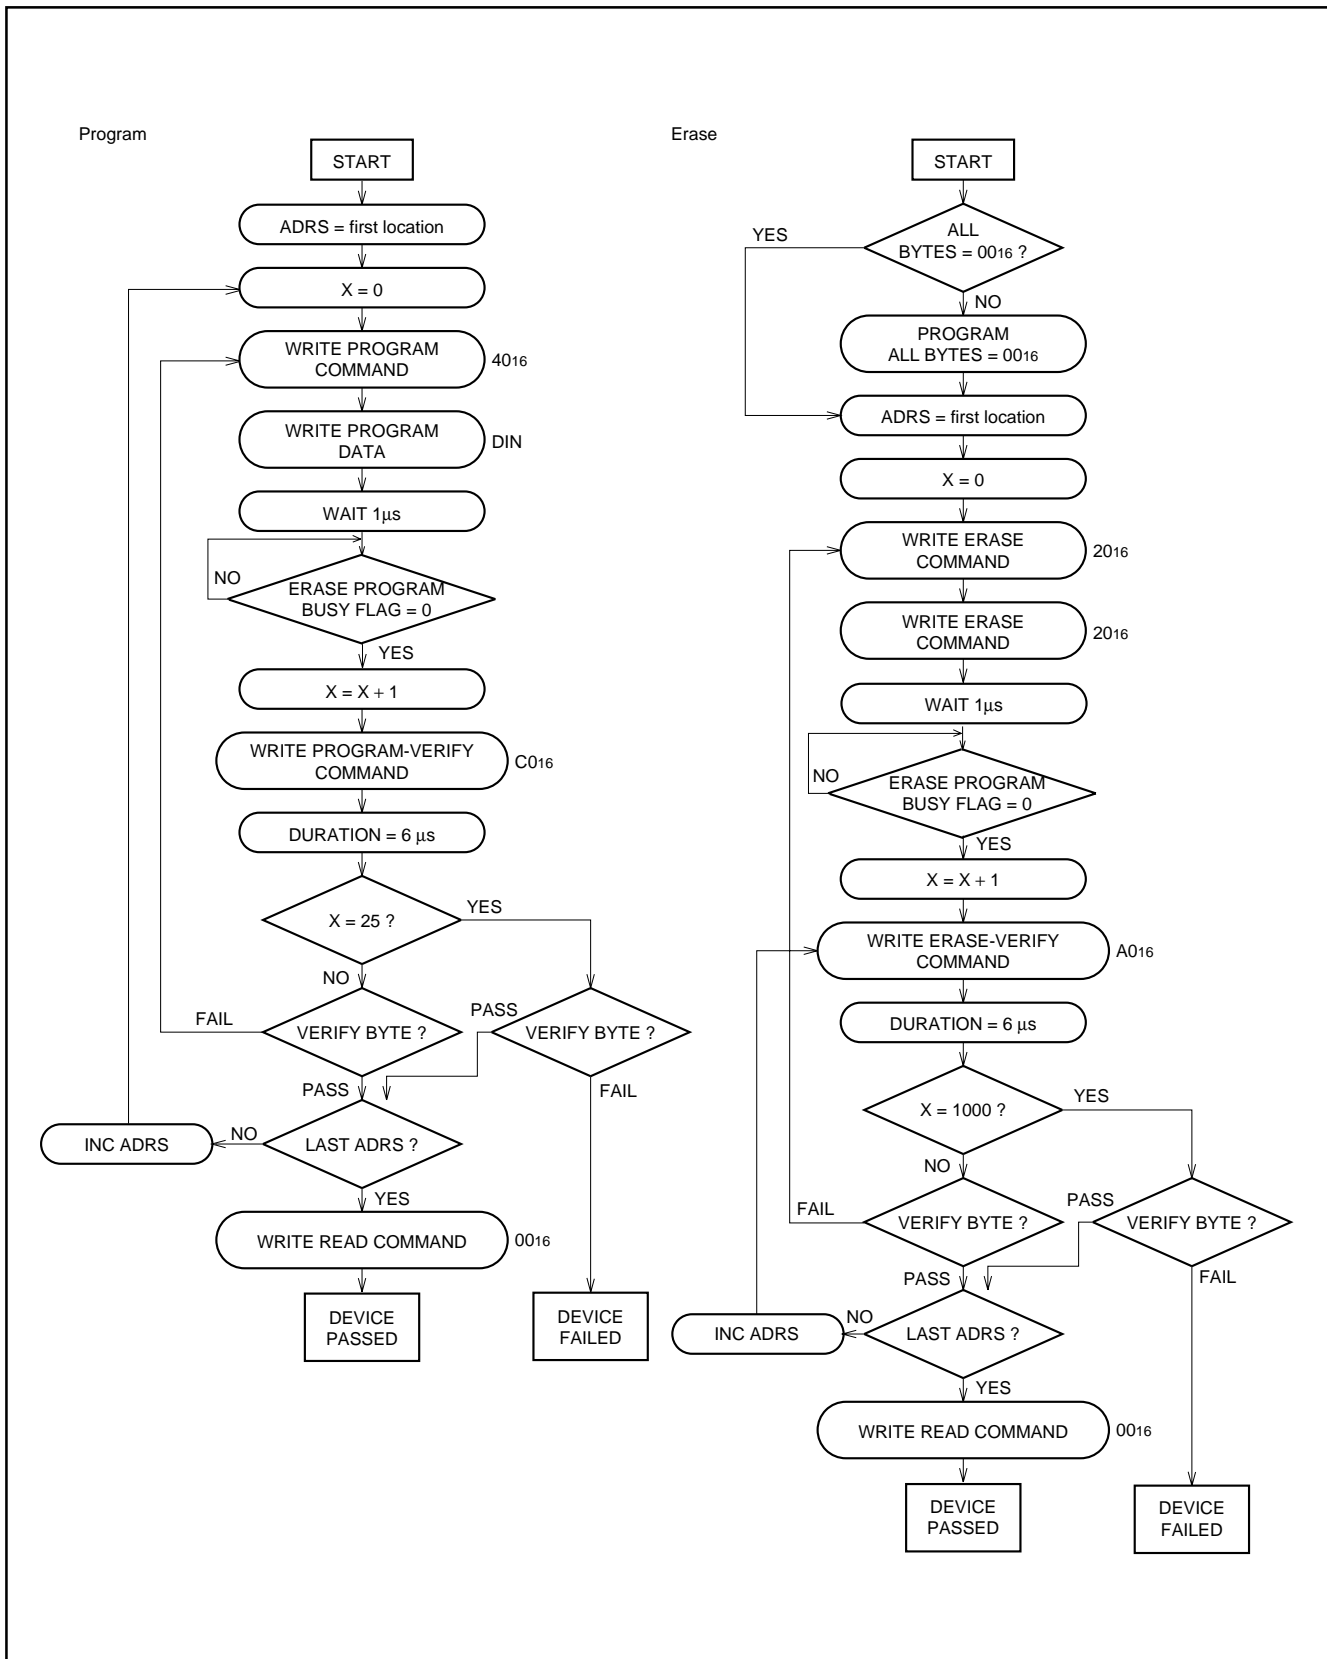

Fig. 104 Flowchart of program/erase operation at CPU reprogramming mode
**Note:** A programming operation is not completed by executing the program command once. Always be sure to execute a program verify command after executing the program command. When the failure is found in this verification, the user must repeatedly execute the program command until the pass. Refer to Figure 104 for the flow chart of the programming.
**Note:** The erasing operation is not completed by executing the erase command once. Always be sure to execute an erase verify command after executing the erase command. When the failure is found in this verification, the user must repeatedly execute the erase command until the pass. Refer to Figure 104 for the erasing flowchart.